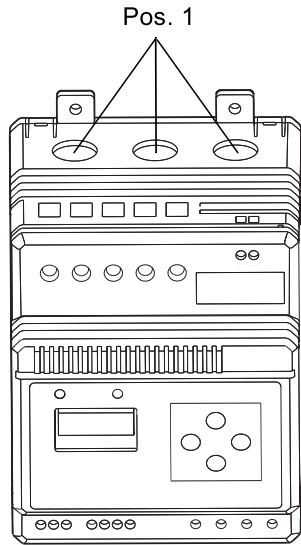

Fig. 5 Cable entries
At motor currents above 120 A, current transformers must be used. See fig. 5, pos. 1.